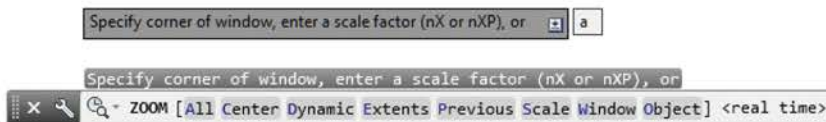

Fig. 1.26 Zooming to All
- At the keyboard, enter **zoom** and *right-click*. Then, in response to the line of prompts that appears, enter **a** (for All), and *right-click* (Fig. 1.26).